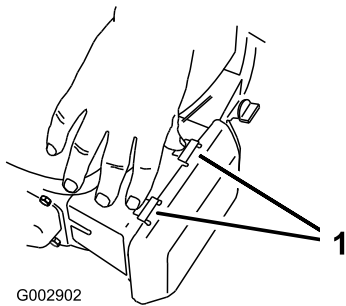

Figure 33
1. Press down on the latch tabs on top of the air cleaner cover (Figure 33).